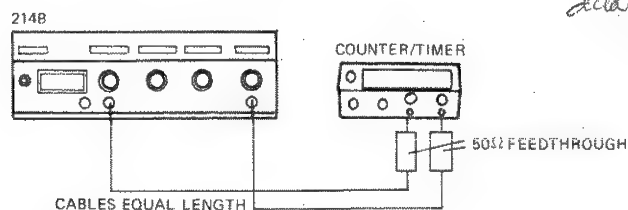

Figure 4-3.
8. Change test setup to that shown in Figure 4-3 to check DELAY RANGES.  $.1\mu - 1\mu$  to 1m–10m.